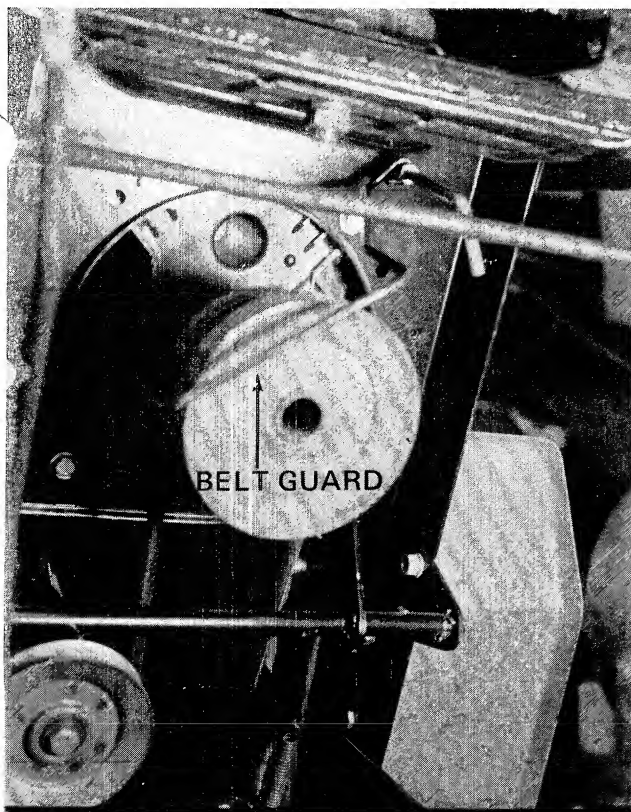

FIGURE 20
4. Swing the belt guard forward towards the front of the tractor. See figure 20.